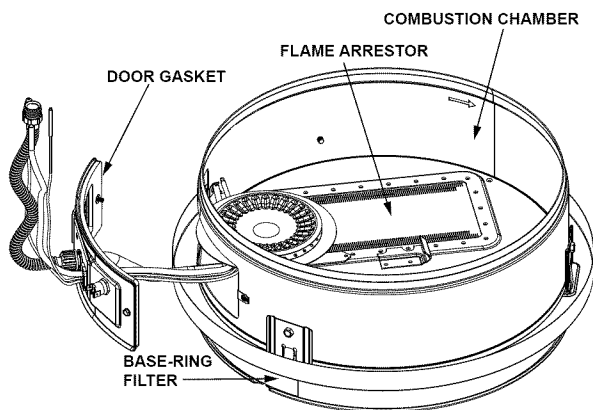

FIGURE 29.
2. Use a vacuum cleaner/shop vac to remove all loose debris in the combustion chamber (Figure 29). Use compressed air to clear any dust or debris that may have accumulated in the flame-arrestor.